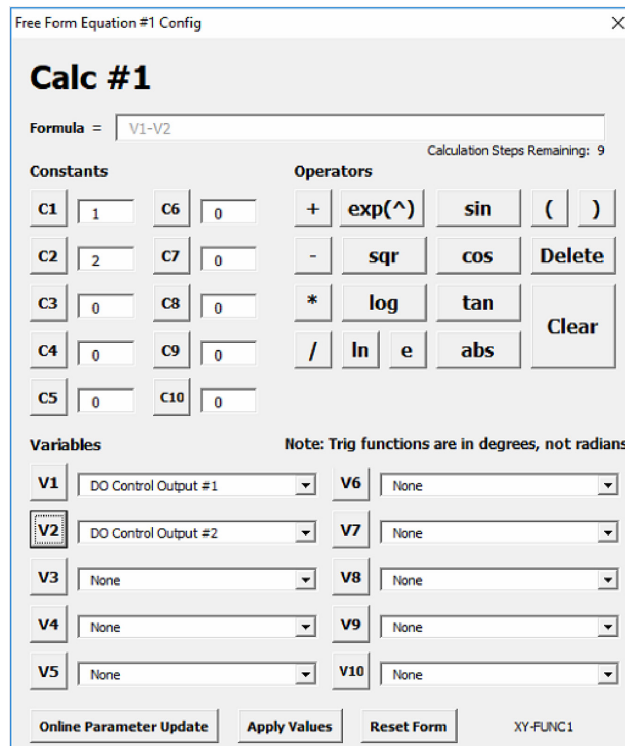

Figure 5.8. Calc #1 configuration.
- For this calculation (**Calc #1** in Figure 5.8), only **Variables** will be needed.